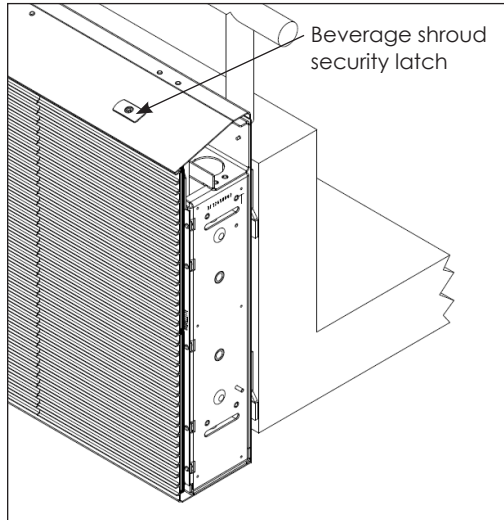
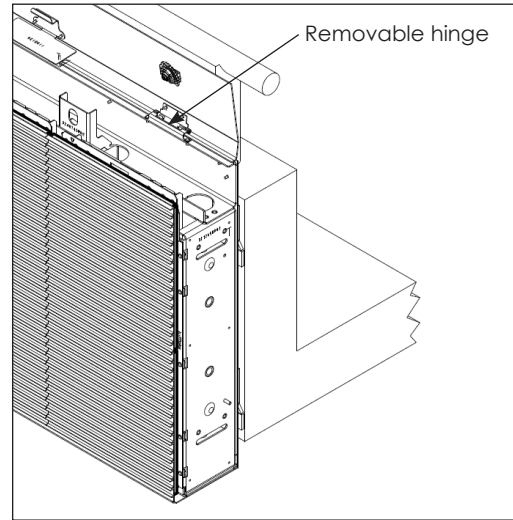

Figure 48: Beverage Shroud Security Latch
Figure 49: Beverage Shroud Removable Hinge
2. Use the $\frac{1}{4}$ " nutdriver (Daktronics part number TH-1042) and $\frac{5}{16}$ " hex security bit (TH-1170) supplied in the toolkit to release the beverage shroud security latches. The beverage shroud may be left on in a flipped-up position or removed by rotating it up and unhooking the spring-loaded hinge pins. Refer to **Figure 48** and **Figure 49**.